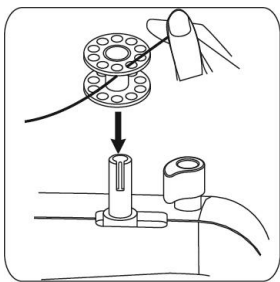

Fig.30
3. Lead the thread through the small hole of the empty bobbin and hold the thread on hand. Put the bobbin on the bobbin winder pin. (Fig.30)